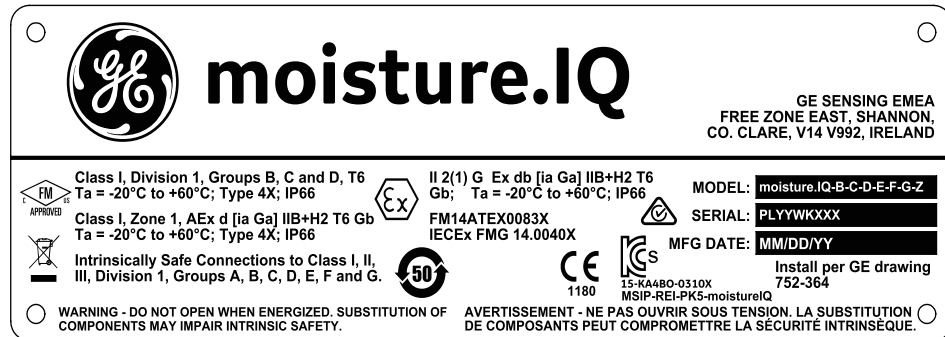

Figure 22: Explosion-Proof Certification Label -Shannon (ref. dwg. 442-1855-02\_F)
- Markings shall appear on the product as shown in *Figure 15* below through *Figure 22* on page 11.